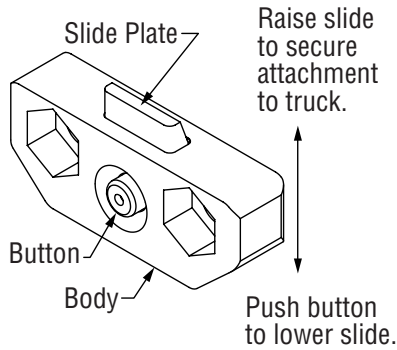

Figure 4-8, Quick Change Hook
8. If quick hooks are used instead of bolt-on hooks, make sure the truck carriage allows the slide plate (see Figure 4-8) to be raised high enough to click into place. Slide plate must click into place. Contact factory (800-285-7000) if the slide plate does not click into place.
6. Remove the lower bolt-on hooks and, if applicable, make a note of any factory installed shims. If quick change hooks are used, simply depress the button on the back of the hooks, allowing the slide plate to drop, Figure 4-8.